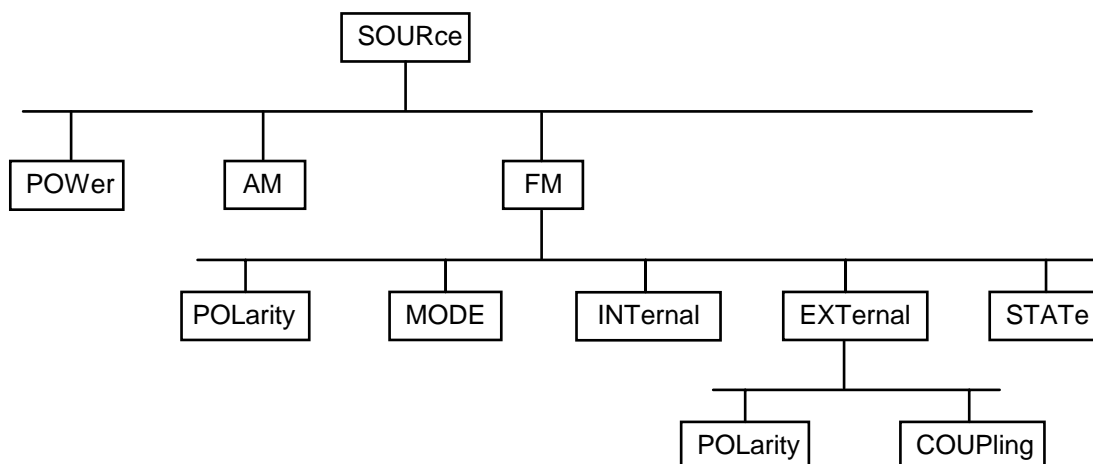

Fig. 3-1 Tree structure of the SCPI command systems using the SOURce system by way of example
SCPI (Standard Commands for Programmable Instruments) describes a standard command set for programming instruments, irrespective of the type of instrument or manufacturer. The goal of the SCPI consortium is to standardize the device-specific commands to a large extent. For this purpose, a model was developed which defines the same functions inside a device or for different devices. Command systems were generated which are assigned to these functions. Thus it is possible to address the same functions with identical commands. The command systems are of a hierarchical structure. Fig. 3-1 illustrates this tree structure using a section of command system `SOURce`, which operates the signal sources of the devices. The other examples concerning syntax and structure of the commands are derived from this command system.
**Hierarchy:** Device-specific commands are of hierarchical structure (see Fig. 3-1). The different levels are represented by combined headers. Headers of the highest level (root level) have only one key word. This key word denotes a complete command system.
If the successive commands belong to the same system, having one or several levels in common, the command line can be abbreviated. To this end, the second command after the semicolon starts with the level that lies below the common levels (see also Fig. 3-1). The colon following the semicolon must be omitted in this case.